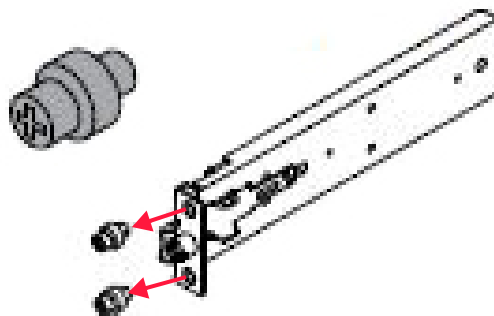

Figure 2.9 Removing the 9.5-inch screws
1. Remove the eight preinstalled 9.5mm screws (used for racks with square post holes): two on each of the brackets on the front and rear outer cabinet member rail as demonstrated in Figure 2.9.